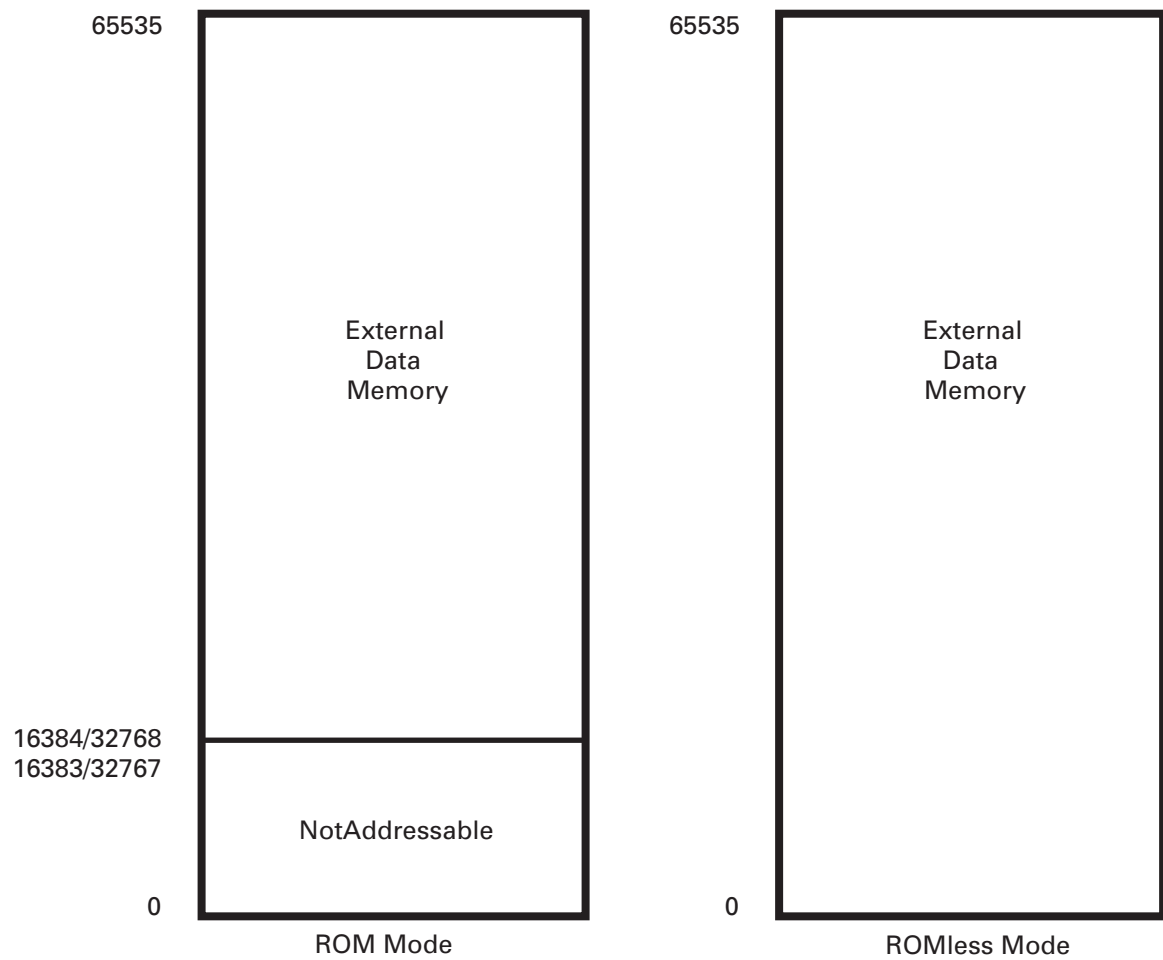

Figure 18. Data Memory Map
**Data Memory ( $\overline{\text{DM}}$ ).** The ROMless version can address up to 64 KB of external data memory. External data memory may be included with, or separated from, the external program memory space.  $\overline{\text{DM}}$ , an optional I/O function that can be programmed to appear on pin P34, is used to distinguish between data and program memory space (Figure 18). The state of the  $\overline{\text{DM}}$  signal is controlled by the type of instruction being executed. An LDC Op Code references PROGRAM ( $\overline{\text{DM}}$  inactive) memory, and an LDE instruction references data ( $\overline{\text{DM}}$  active Low) memory. The user must configure Port 3 Mode Register (P3M) bits D3 and D4 for this mode. This feature is not usable for devices in 28-pin package. When used in ROM mode, the Z86C46 cannot access any external data memory. The Z86C44/C45 can access exter-